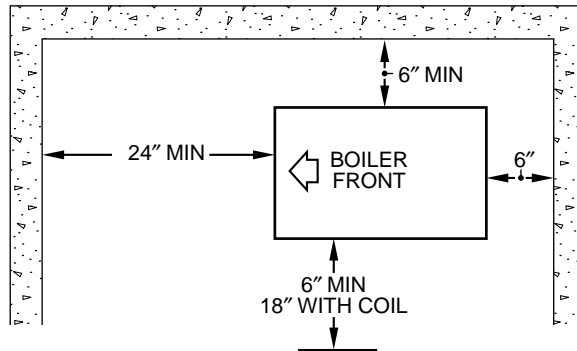

Fig. 2—Minimum Clearance Dimensions
5. Maintain clearances for fire safety as well as servicing. Refer to Fig. 2 for minimum clearances. An 18-in. clearance must be maintained at a side where passage is required to access another side for cleaning, servicing, inspection, or replacement of any parts that normally may require such attention. Boilers must be installed at least 6 in. from combustible materials on all sides and above. Allow at least 24-in. front clearance for servicing. Allow at least 18-in. right-side clearance for servicing boilers equipped with a tankless coil.